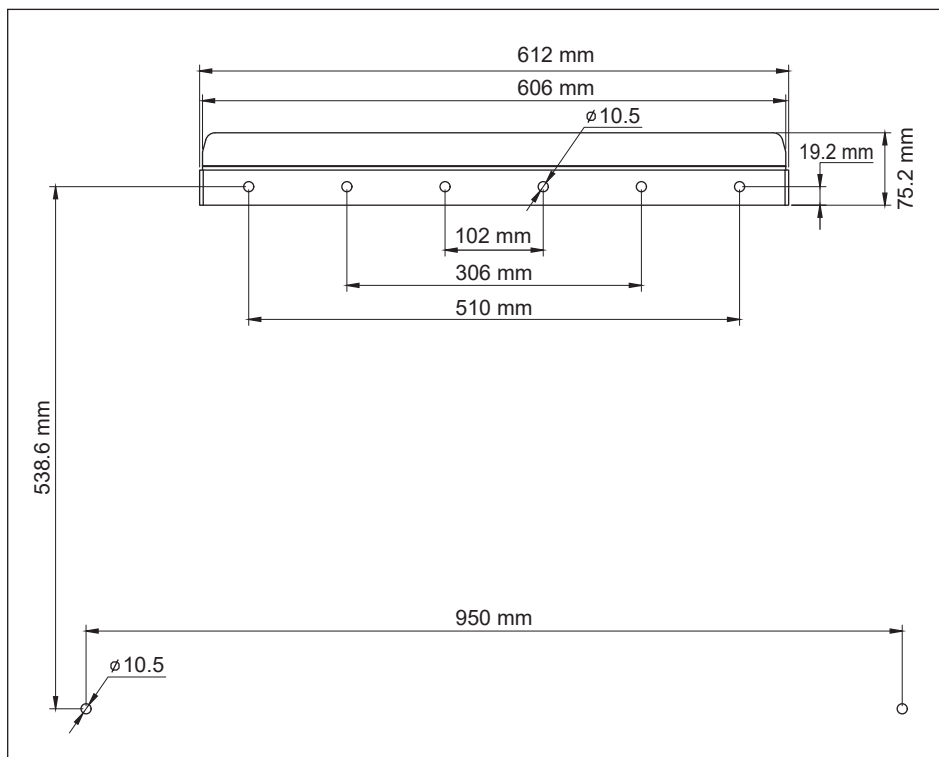
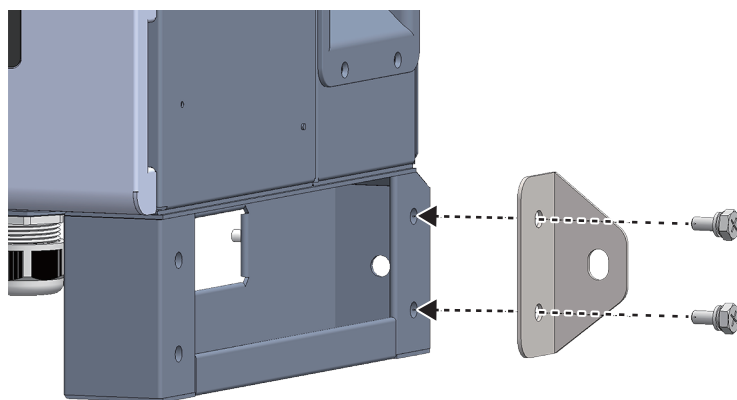
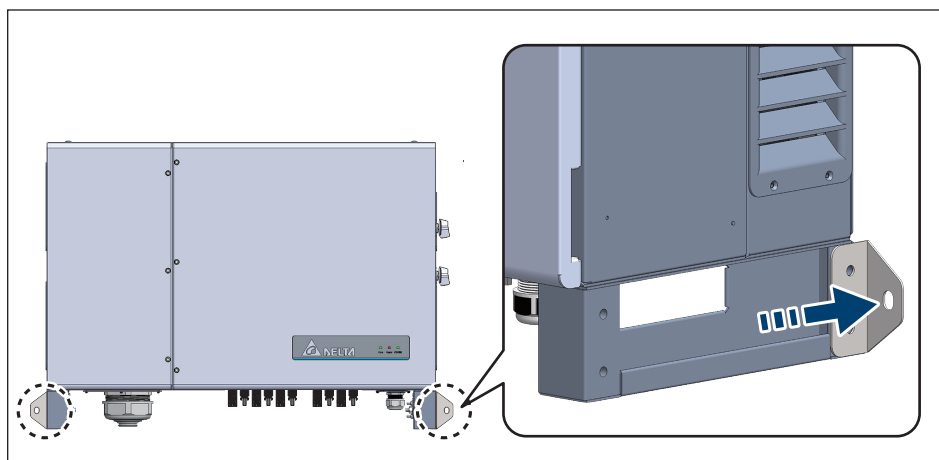

Figure 3-5: Mounting bracket dimensions
Figure 3-8: Install the unit on the foots
Figure 3-9: To secure inverter reinforce brackets to wall-mounting bracket
Refer to **Figures 3-5** through **Figures 3-9**.
2. Orient the wall bracket horizontally (perpendicular to the floor), with the large plate at the bottom, and mark required mounting hole locations per **Figure 3-5**.
5. Secure the inverter by inserting and tightening 2 M10 screws per **Figure 3-9**.
After installing the reinforce brackets on the foots (**Figure 3-8**), secure the reinforce brackets to the wall with two screws per **Figure 3-9**.